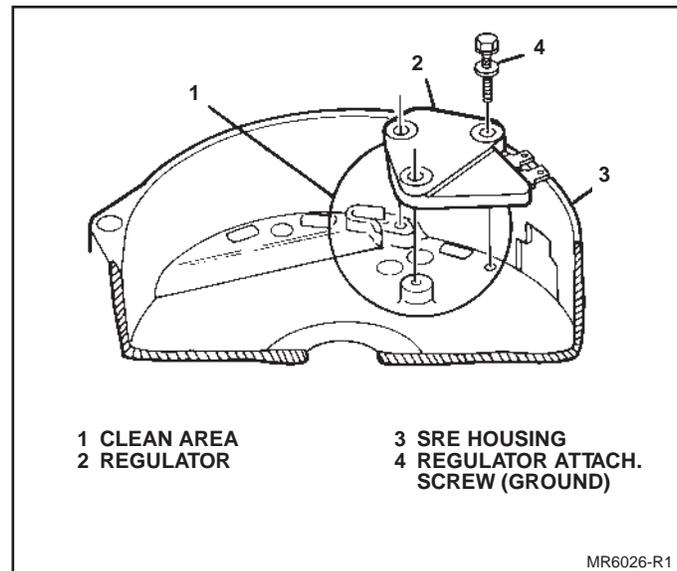

Figure 27. Installing Regulator
9. Regulator mounting area for presence of grease or dirt (Fig. 27). Good electrical contact is necessary in this area.
10. Regulator to SRE housing (Fig. 27), with regulator attaching screw (grounding). Finger tighten.